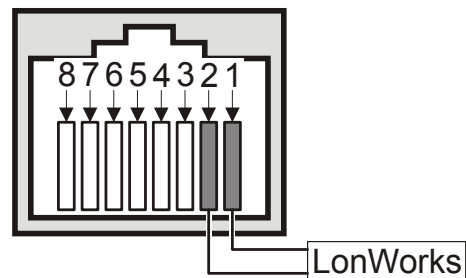

Fig. 3. LonWorks interface (RJ45 jack)
- via the corresponding jack located to the right of the terminal blocks (see Fig. 3).